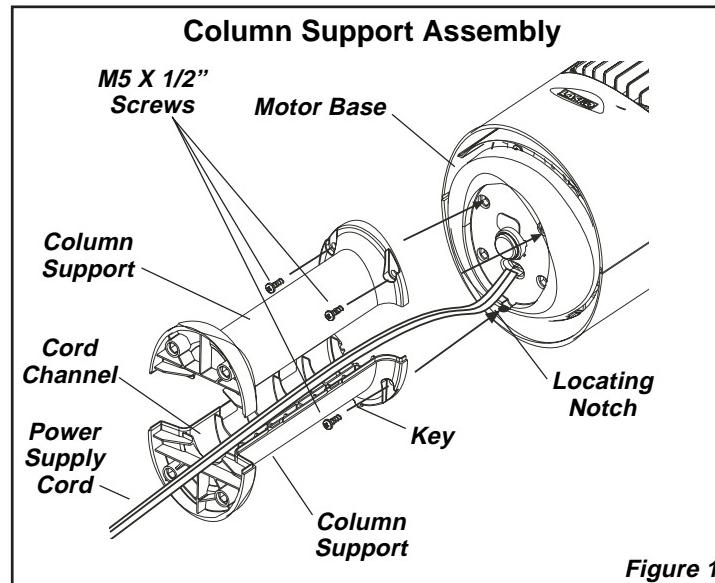

Figure 1
2. Locate the **Power Supply Cord** at the bottom on the Fan. Place the **Power Supply Cord** in the **Cord Channels** of the **Column Supports**. Snap the **Column Supports** firmly together to form the **Column Support Assembly**. (Figure 1)
3. Attach the **Column Support Assembly** to the **Motor Base** with **(4) 1/2" Long M5 Screws**. Make certain to align the **Key** on the **Support Column Assembly** with the **Locating Notch** on the **Motor Base**. (Figure 1)